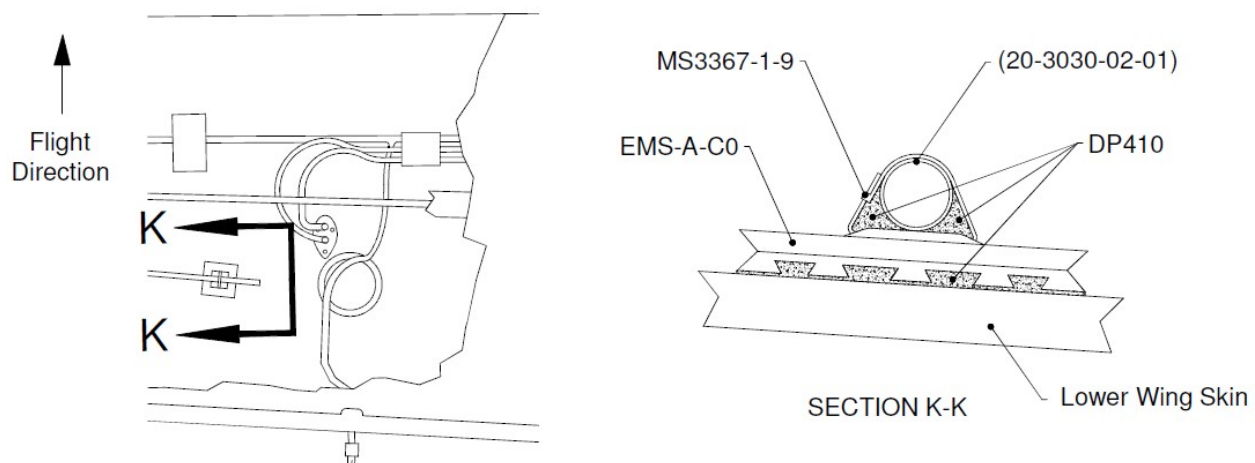

Figure 40: Bonding of Pitot Wire Conduit to Lower Wing Skin
- 13.1.12** Bond the Cable Tie Base (p/n: EMS-A-C0) to the lower wing skin using Epoxy Adhesive DP410, as shown in Section K-K of Figure 40 (allow to cure). Fasten using Cable Tie (p/n: MS3367-1-9). Fill gaps around the Cable Tie and the Pitot Wire Conduit (20-3030-02-01) with DP410. Ensure the bonded area is free of voids and wipe away excess.